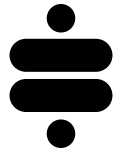

Figure 7
Next, install a delrin washer then coil spring over the top of the shock as seen in figure 7.
**9.** Using a spanner wrench, thread the nut up or down the shock body to achieve the desired ride height (Figure 7). Tighten the locking screw to secure the adjustment nut in place. Torque to **18 in-lbs.**